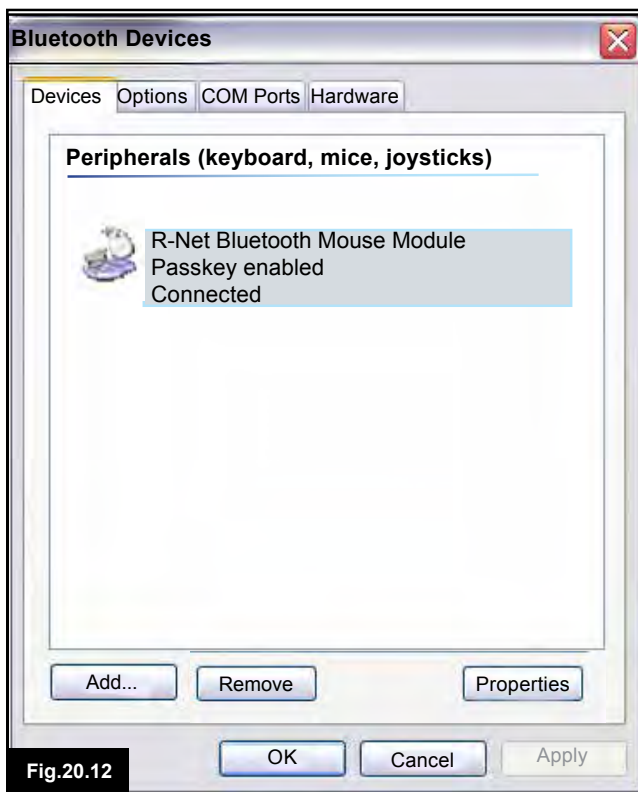

Fig.20.12
15. The following window will be shown and the blue LED on the Bluetooth Module should be lit (Fig 20.12).
16. If the process fails, click on "R-Net Bluetooth Mouse Module" and then "Remove" (Fig 20.12). Start the process again from step 1.